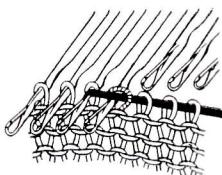

Fig. 46
- c. Slide the knitting needle into the next stitch and repeat until all the stitches are off the needles in the needle bed. (See Fig. 46)